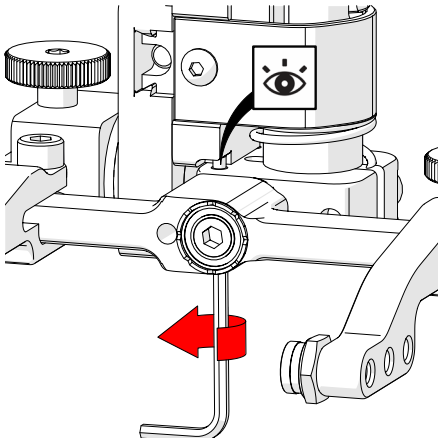

Fig. 54 - Raise opposite 90° stop post
8. Raise the stop post on the opposite side until the side of the post contacts the 90° stop point on the probe holder's base (Fig. 54).